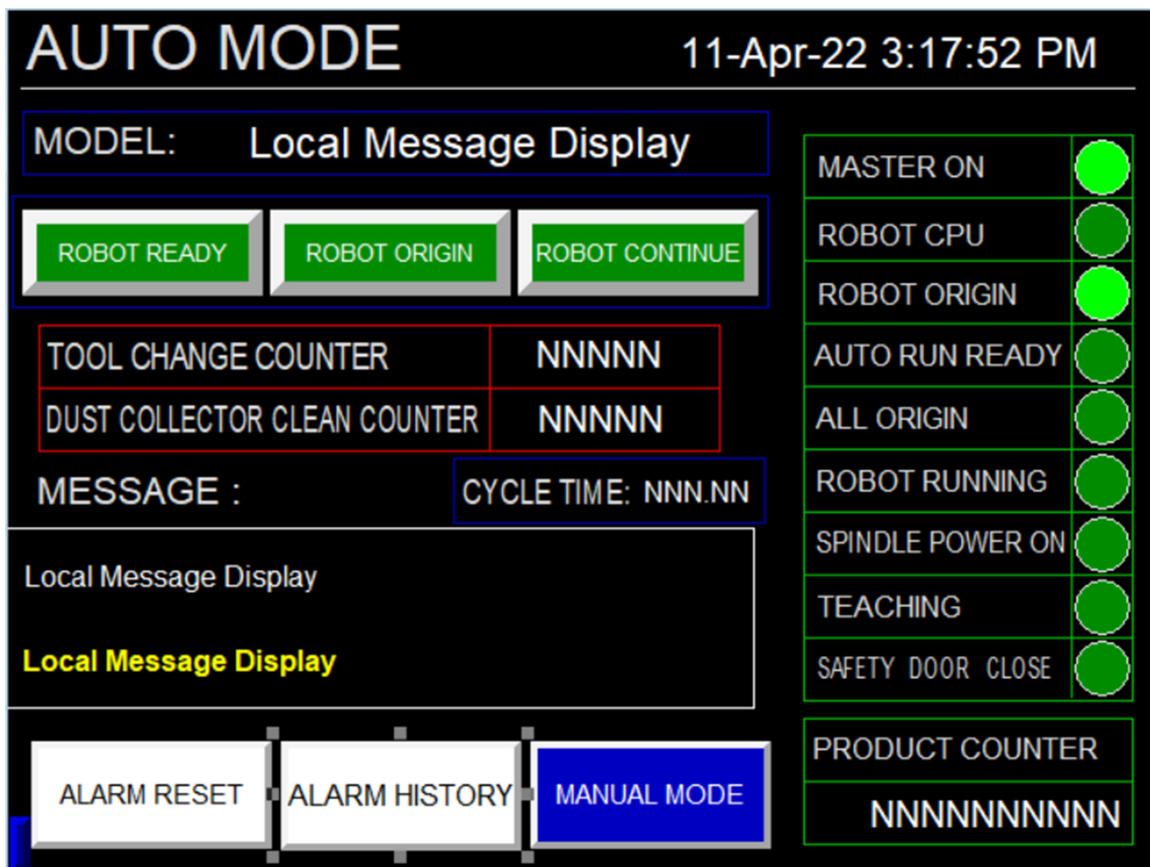

FIGURE 1: AUTO MODE SCREEN
- 2) Touch panel will display AUTO MODE screen as shown in Figure 1.